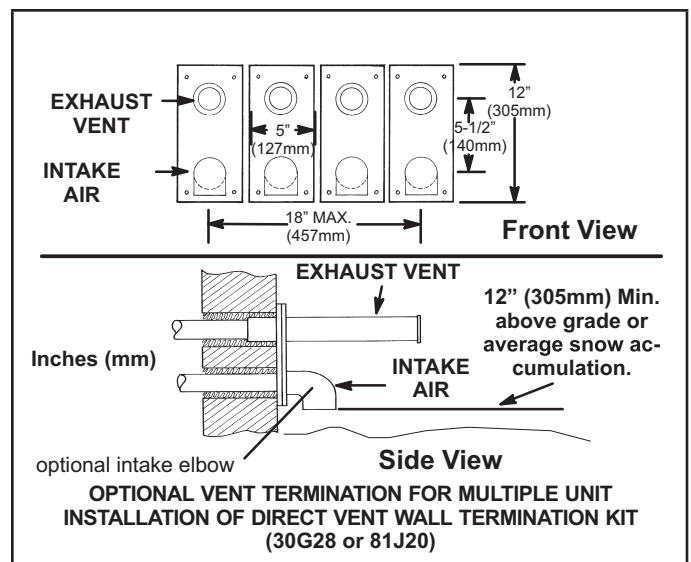

FIGURE 31
- 8 - Based on the recommendation of the manufacturer, a multiple-furnace installation may use a group of up to four terminations assembled together horizontally, as shown in figure 31.